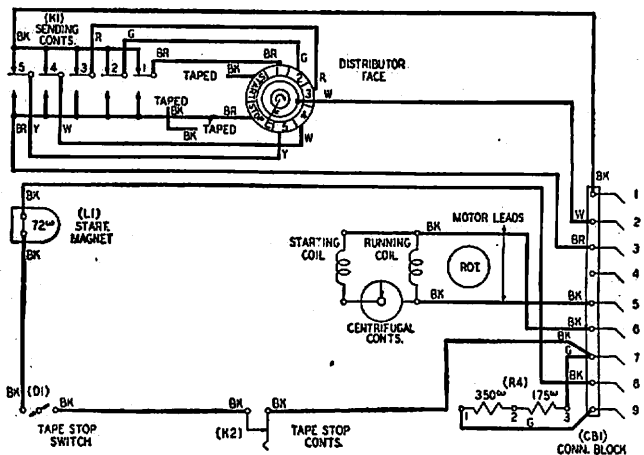
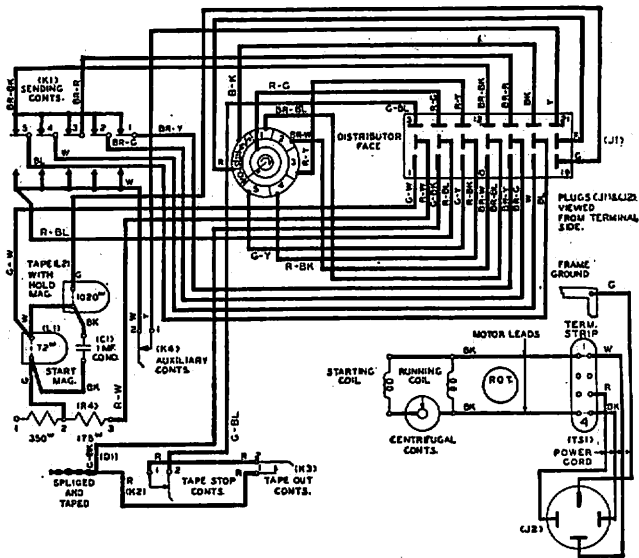
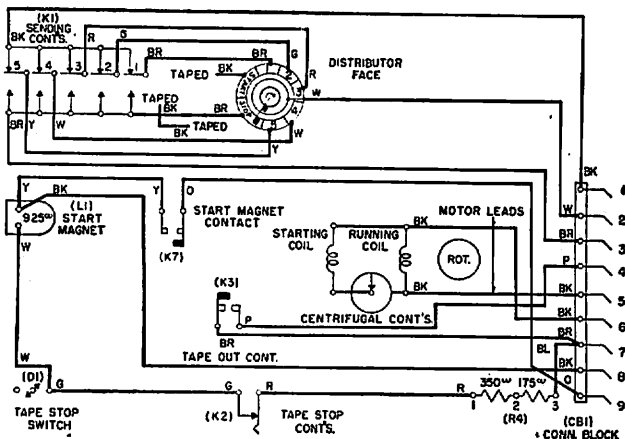

Fig. 1—No. 14-A, B, H, J, Y, AE and AU Transmitter-Distributors (Synchronous Motor)
Fig. 6—No. 14-W, BB and BC Transmitter-Distributors
Fig. 7—No. 14 BD and BE Transmitter-Distributors (Synchronous Motor)
1.01 This section covers the wiring of No. 14-type transmitter-distributors. It is reissued to include Figs. 6, 7 and 8. Changes in text are indicated by an arrow.
1.02 The diagrams show the wiring of the machines as they are received from the factory. Figs. 1 to 5 are based on ESX-619352, Issue 7. Fig. 6 is based on ESR-631829, Issue 2. Figs. 7 and 8 are based upon BR-214638, Issue 1.
1.03 The wiring shown in Figs. 1, 2 and 3 for transmitter-distributors which are used at teletypewriter stations, covers the a-c clutch magnet which is adapted for use on either a-c or d-c power supply.
1.05 Fig. 6 shows the type of transmitter-distributor which is used at the switching center of an 81-type system. Figs. 7 and 8 are types of transmitter-distributors which are used at an outlying station of an 81-type system.